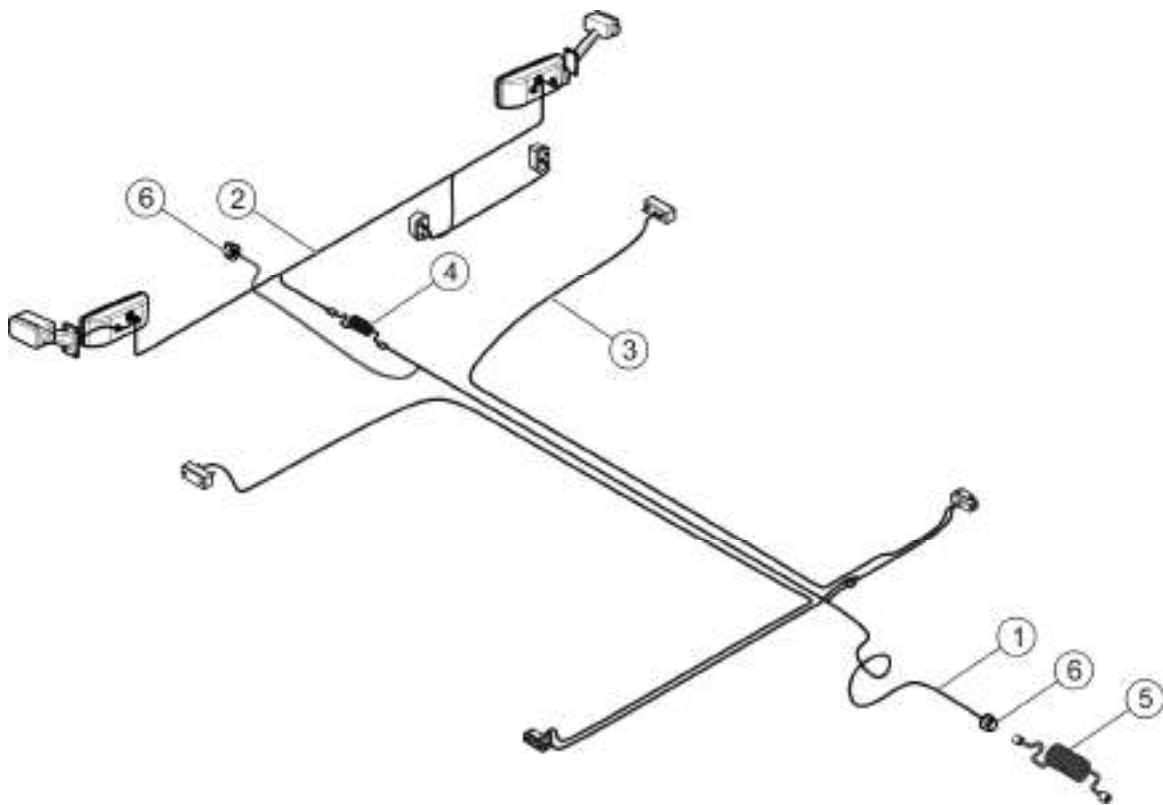

FIG. 3.12 Design of electrical lighting system
(1), (2) rear lamp assembly left/right, (3), (4) front rear and side parking light left/right, (5) license plate illumination light, (6) slow-moving vehicle warning plate, (7) front clearance and left/right parking light, (8) side parking light, (9) 7-pole socket, (10) front reflector
The trailer's electrical system is designed for supply of 12 V DC. In order to cooperate correctly with the trailer, the tractor should be equipped with a 7-pin electric socket (figure 3.12-6) and a 3-pin electric socket (figure 3.13-4). Connection of the trailer's electrical lighting system (figure 3.12) with the tractor should be made through an appropriate connection lead (5) with a 7-pin socket.